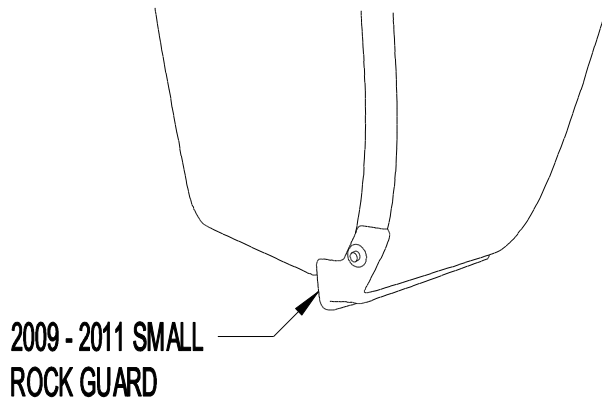
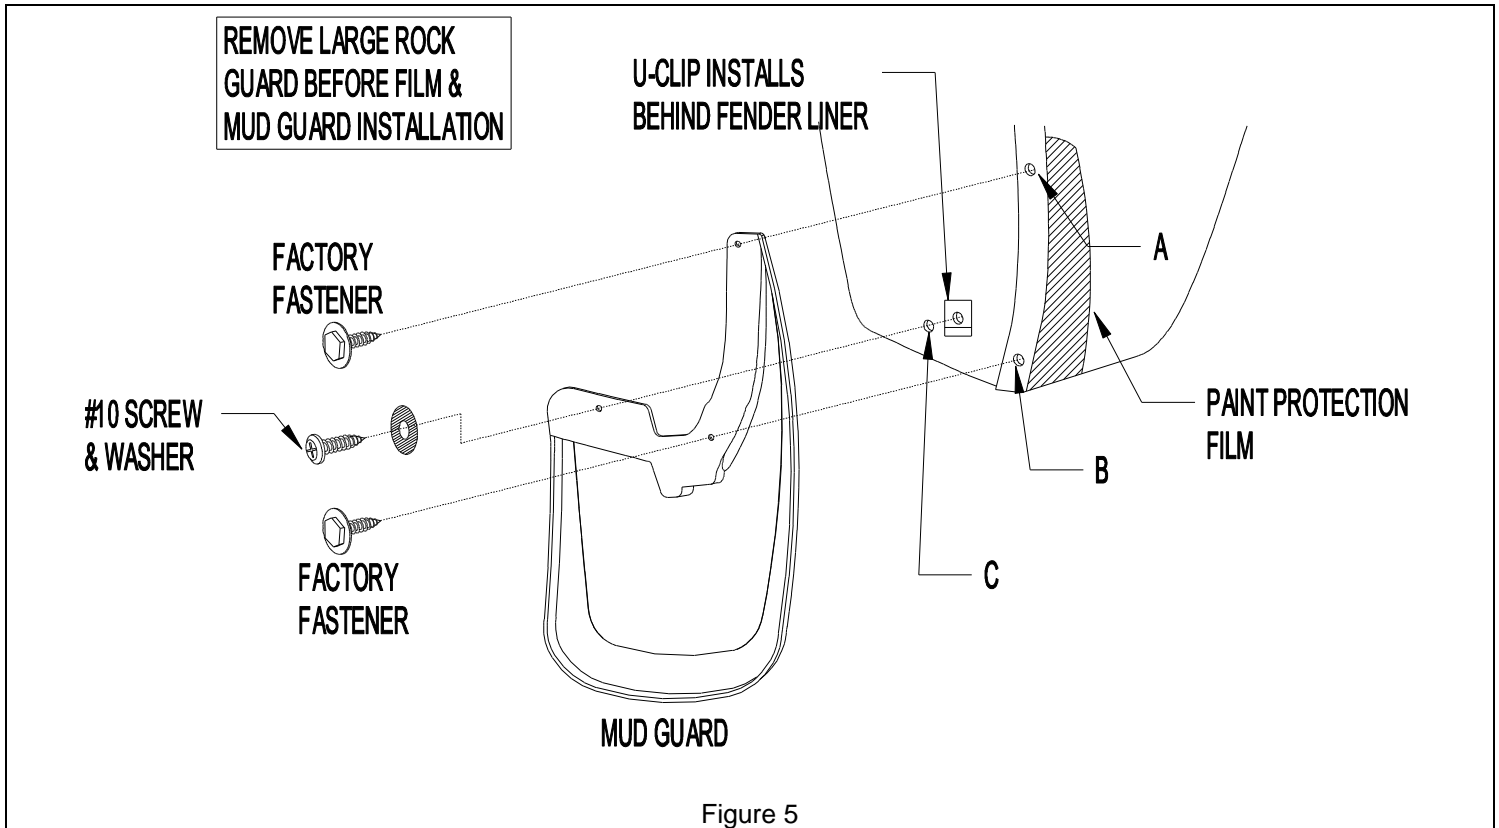

Figure 1
Figure 5
FIGURE 1: If you have the "small rock guard" as shown in Figure 1., simply leave the rock guard in place. Next, follow the paint protection film instructions and then the mud guard installation instructions.
1. If you have the "large rock" shown in Figure 2, remove the large rock guard before you install the paint protection film as shown in Figure 5. If you have the small rock guard shown in Figure 1, leave the small rock guard in place and proceed with the paint protection film installation as shown in Figure 4.
1. Remove the existing fastener from locations A and B as well as locations C and D if you have the "Large Rock Guard". Replace C and D after removal of the "large rock guard" if applicable. Once again, use Figure 4 if you have the "rock guard" in Figure 1 or use Figure 5 if you have the "large rock guard" in Figure 2.